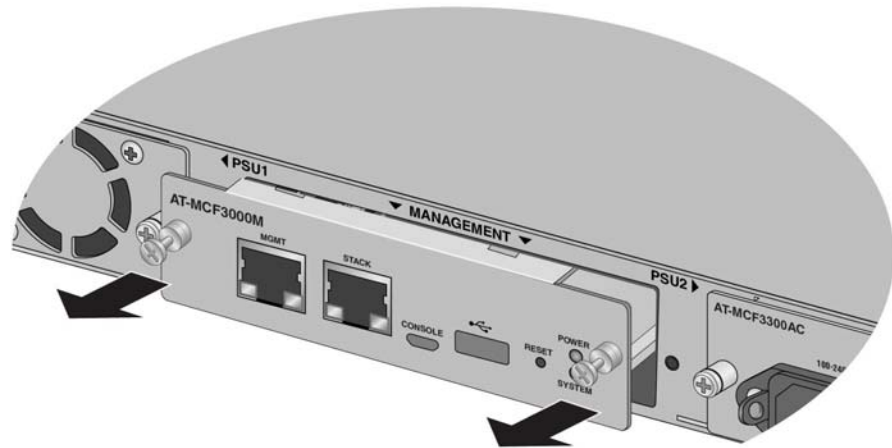

Figure 79. Disconnecting the MCF3000M Management Module from the Backplane Connector
3. Pull on the captive screws to disconnect the module from the connector on the backplane. Refer to Figure 79.